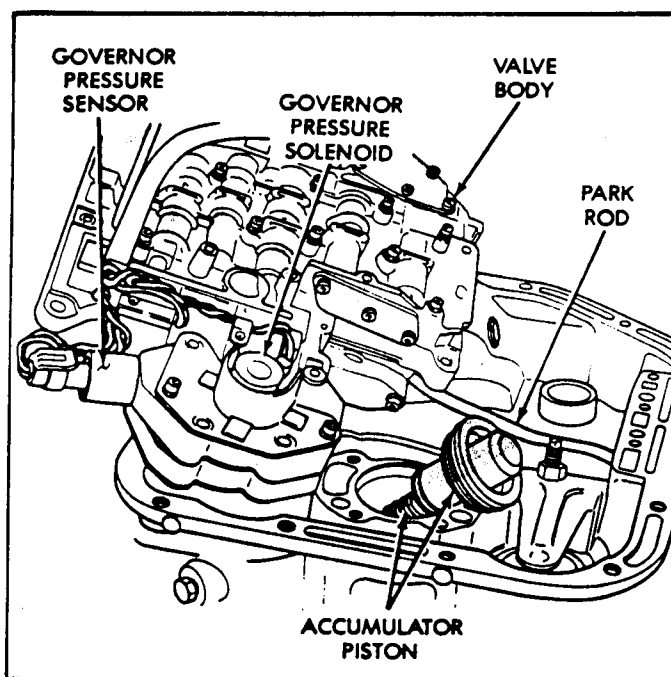

Figure 12
19. Remove valve body assembly from case by pushing on harness connector, and at same time lifting on valve body. Then work park rod and valve body out of the case (See Figure 12).